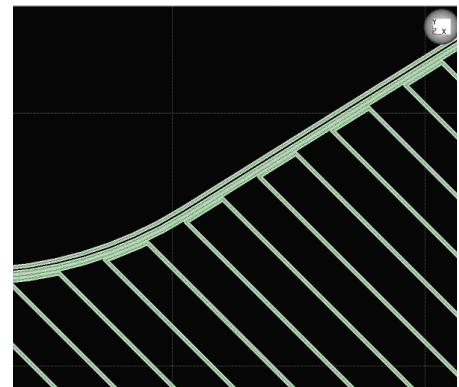
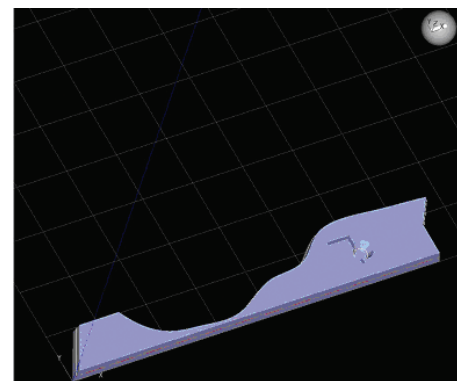

Figure 1: Air Gap Problem 1
Figure 2: Use New Orientation 1
STEP 1: After slicing, building supports, and creating toolpaths, inspect the slice file layers to look for the air gap (figure 1).
STEP 2: If, after inspecting the slice file, detect the air gap between inner and outer walls of the part, it may be possible to correct the problem by rotating the part. If the geometry of the part allows an orientation that eliminates the sloped surface from the z-plane, then rotating the part will correct the problem. Figure 1 was rotated 90 degrees along the y-axis, then reprocessed (sliced, build supports, create toolpaths, figure 2).